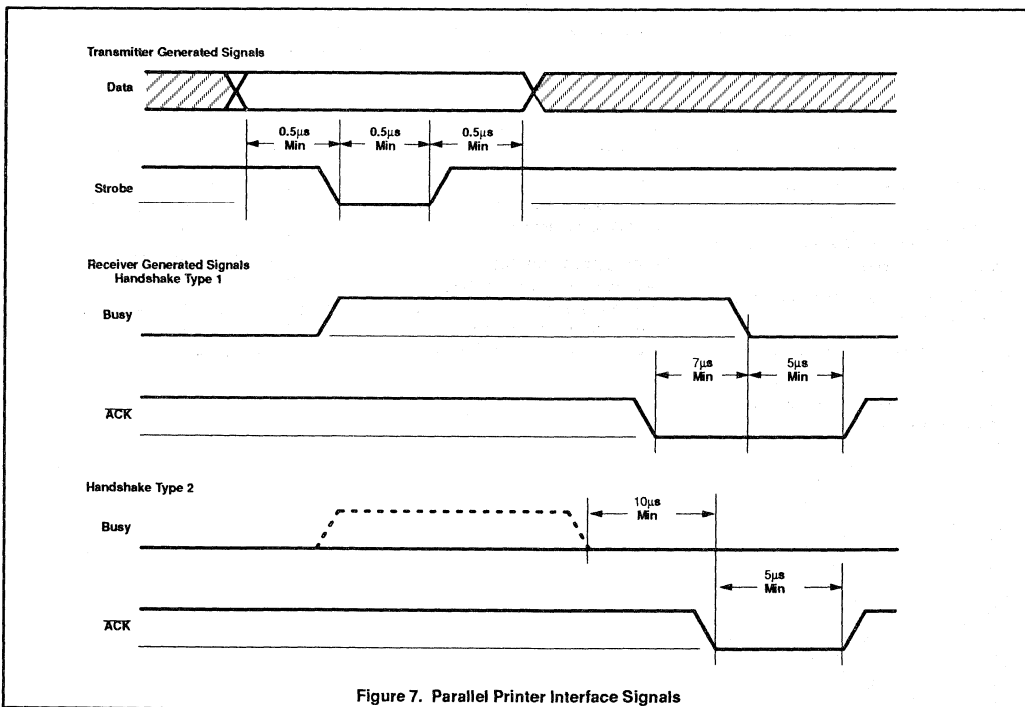

Figure 7. Parallel Printer Interface Signals
**Type 1**—Figure 7 shows a common style of handshake and is the style that will be implemented in the receiver examples. A busy signal and an acknowledge strobe pulse are generated for every byte received.
**Type 2**—Another style of handshake generates a busy signal only when the printer will not be able to accept more data for a relatively long time. Acknowledge pulses are created after every byte received. When the busy signal is generated after a byte is received, the associated acknowledge pulse does not occur until *after* the busy signal returns to logic zero (see Figure 7).